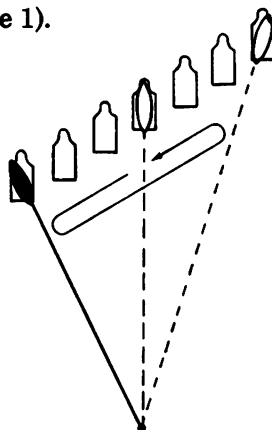

Figure 2.
b. Linear Target with Depth. The gunner must engage the entire width and depth of the target. He lays his gun on the center of mass, or portion of the target which presents the greatest threat. The gunner traverses and searches to the flank closest to his position, then covers the entire target (figure 2).